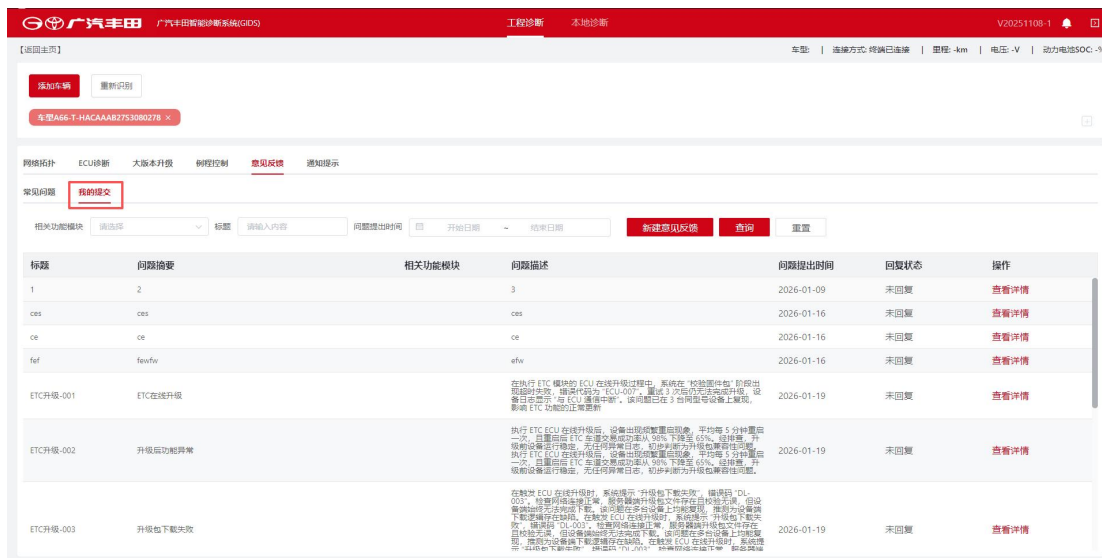

Figure 8-5 My Submissions
1. Click the [Feedback] tab to enter the Feedback page, then click the [My Submissions] tab, as shown in Figure 8-5 My Submissions.